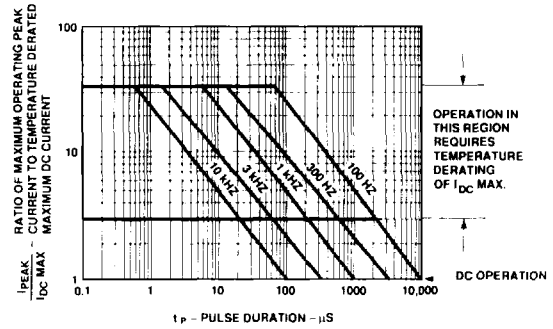

Figure 8. Maximum Allowed Peak Current vs. Pulse Duration - Green.
7. See Figure 8 to establish pulsed conditions.